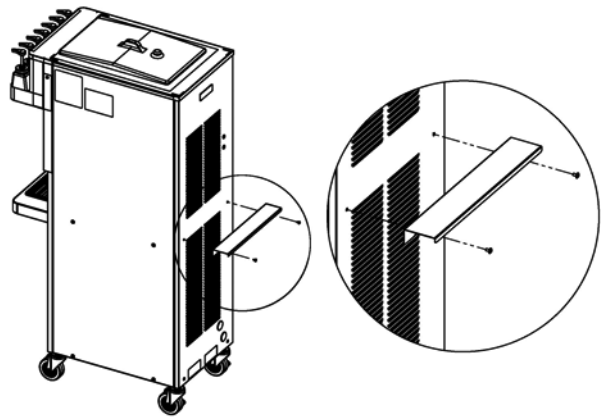

Figure 2-1 Rear Air Baffle
- C. Correct ventilation is required. Install the rear air baffle to provide the 3" clearance at the front and back (Refer to Figure 2-1). Remove the rear panel screws and use them to attach the baffle. The freezer can be placed side-by-side next to other equipment.